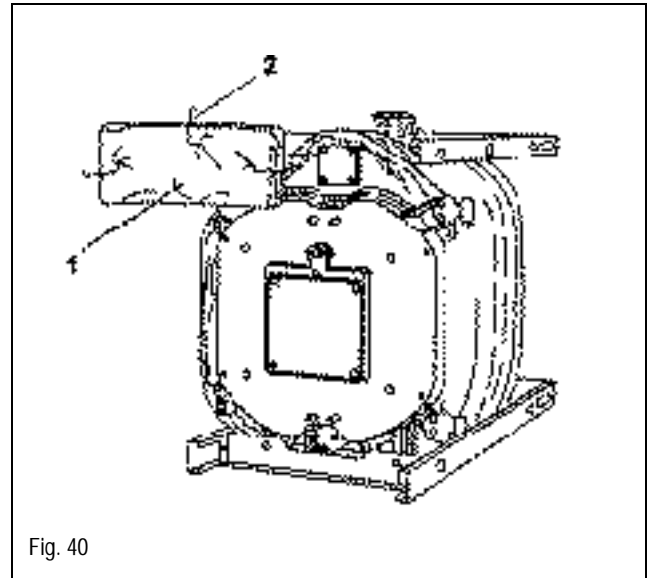

Fig. 40
- Slide the top front insulation piece (1) on the top front cross bracket (Fig. 40).
- Support this piece with 3 springs (2) to insulation blanket (Fig. 40).